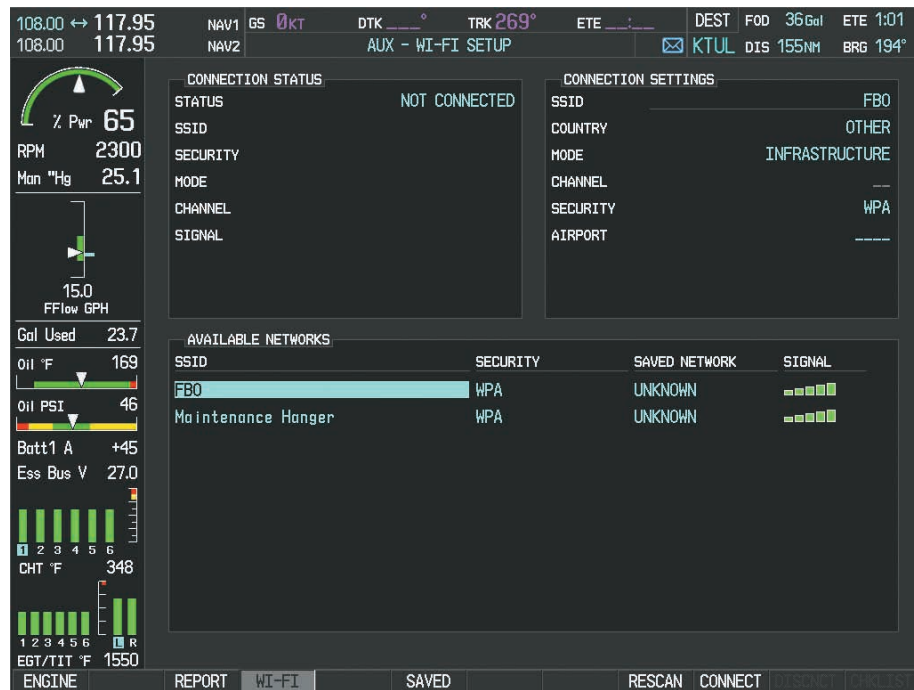

Figure 8-105 Desired Network Selected
- 4) Turn either **FMS** Knob to select the desired network. See Figure 8-105.